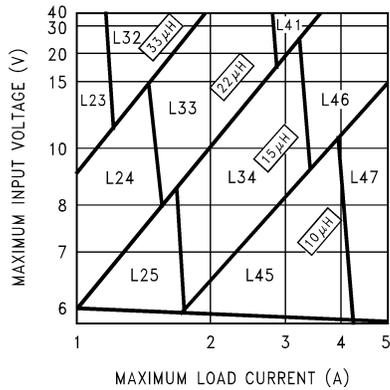
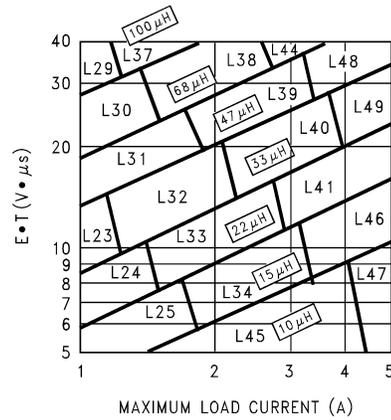

Figure 18. LM2679-3.3
Figure 21. LM2679-ADJ
Step 3: Determine the inductor required by using one of the four nomographs, Figure 18 through Figure 21. Table 1 provides a specific manufacturer and part number for the inductor.
Step 5: Determine an input capacitor from Table 8 and Table 9 for fixed output voltage applications. Use Table 3 and Table 4 to find the specific capacitor type. For adjustable output circuits select a capacitor from Table 3 and Table 4 with a sufficient working voltage (WV) rating greater than $V_{in\ max}$, and an rms current rating greater than one-half the maximum load current (2 or more capacitors in parallel may be required).
Step 3: Use the nomograph for the 3.3V device, Figure 18. The intersection of the 16V horizontal line ($V_{in\ max}$) and the 4A vertical line ($I_{load\ max}$) indicates that L46, a 15 μ H inductor, is required.
Step 3: To use the nomograph for the adjustable device, Figure 21, requires a calculation of the inductor Volt•microsecond constant ($E \cdot T$ expressed in $V \cdot \mu S$) from the following formula:
Using Figure 21, the intersection of 27V• μS horizontally and the 3.5A vertical line ($I_{load\ max}$) indicates that L48, a 47 μH inductor, or L49, a 33 μH inductor could be used. Either inductor will be suitable, but for this example selecting the larger inductance will result in lower ripple current.
When using the adjustable device in low voltage applications (less than 3V output), if the nomograph, Figure 21, selects an inductance of 22μH or less, Table 12 and Table 13 do not provide an output capacitor solution. With these conditions the number of output capacitors required for stable operation becomes impractical. It is recommended to use either a 33μH or 47μH inductor and the output capacitors from Table 12 and Table 13.